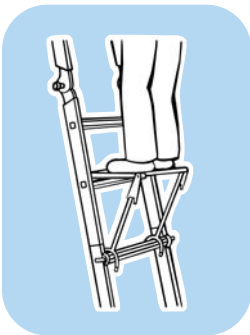

Figure G-6
6. Check to ensure platform is securely in place before putting full weight on it (see figure G-6).